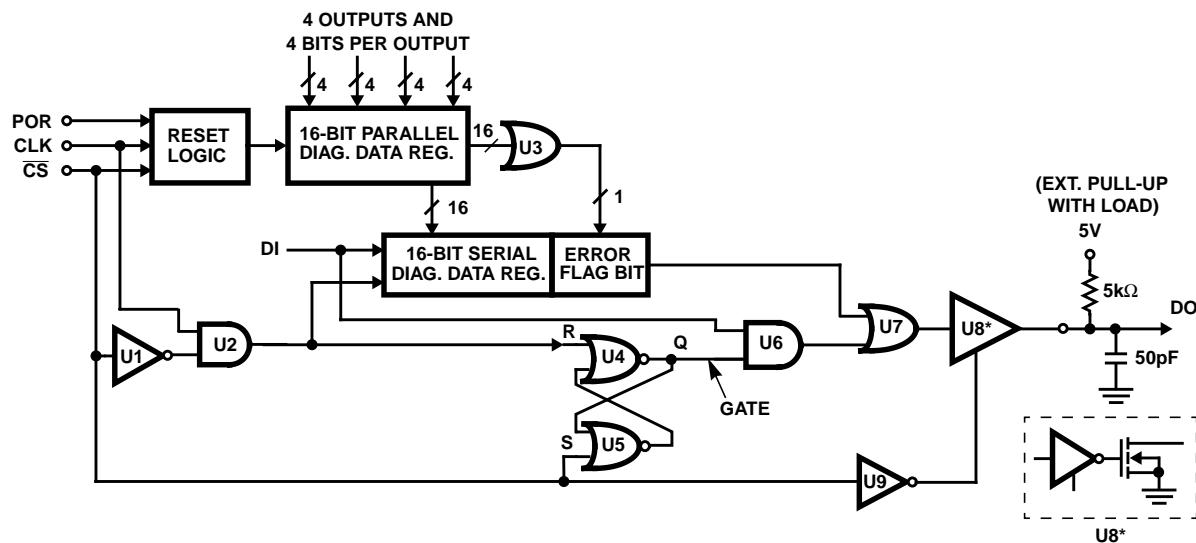
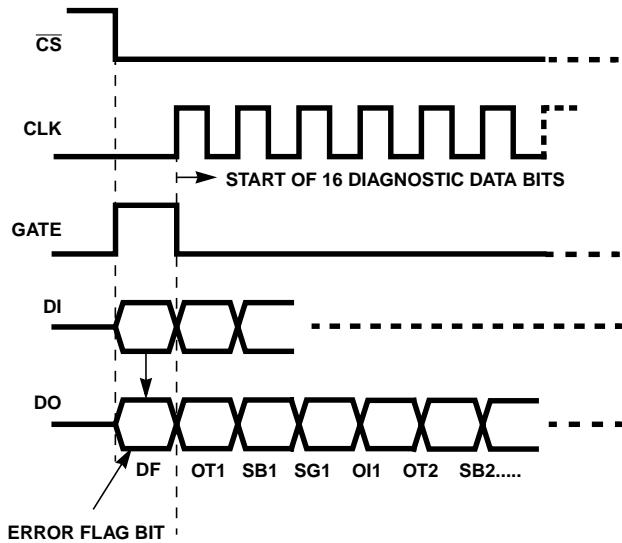

FIGURE 1. DIAGNOSTIC INTERFACE LOGIC
FIGURE 2. DATA AND CLOCK TIMING
Referring to Figure 1 and Figure 2, there are two sources that generate an OR'ed Fault Flag at DO when \overline{CS} goes low. The two fault data sources are (1) the on-chip fault detection and (2) the off-chip DI input from front end ICs in the cascade. The fault data bit, labeled DF (Data Fault) in Figure 2, contains the OR'ed inputs from both sources. The DF bit is not part of the 16-bit serial diagnostic data sequence. In cascaded operation, the DI input for the first of the selected chips should be tied low. And, in single IC operation (no cascade), the DI input should also be tied low. In cascaded operation, the Error Flags are cascaded via the DI inputs.
The last IC in the string ORs its own 16 fault bits in the parallel diagnostic register data and sends this data bit to an Error Flag register. The Error Flag register outputs the presence of a fault in one or more bits of the parallel diagnostic data register. As shown in Figure 2, the Error Flag is the first bit in front of the serial register and is input to OR Gate, U7 with the DI input. The DI input passes through AND Gate, U6 when the GATE signal is high and output via the amplifier U8 to DO. The output amplifier U8 is active only while \overline{CS} is low. When \overline{CS} is low, the RS Flip-Flop drives the GATE output high. When the GATE is high, the cascaded DF bits are jammed from DI to DO. All Error Flags in the cascade are cleared (by the CLK input) when the serial diagnostic data is clocked out of DO.
Technically, the HIP0080 and HIP0081 fault data has only 16 bits. Except for the Error Flag, DF data bit shown in Figure 2, the format matches that of a normal CPOL = 0, CPHA = 1 SPI protocol (polarities, phase, etc). The DF bit from the DO output is active only until the clock starts. The best way to take advantage of it (if desired) is to connect the DO to the SPI bus, and also to a port pin, or other logic input. After CS goes low and before the SPI clocks starts, the DF bit can be read. If it is a zero, then the rest of the data does not have to be read. (The data will be all 0's = no errors). If the DF bit = 1, then the data must be read to find out which bit(s) is set.